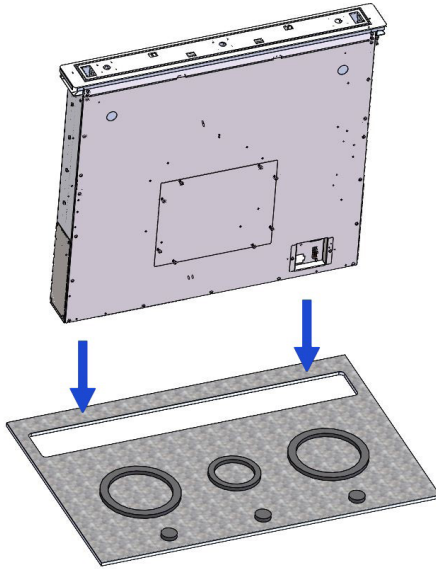

Fig. 14
7. Install the downdraft in the hole made, inserting it from above (fig. 14),